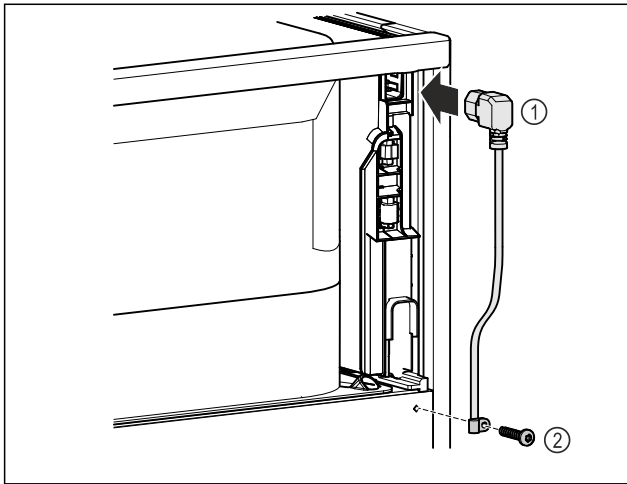

Fig. 8
- ▶ IEC socket of the power cable Fig. 8 (1) on the rear side of the appliance.
- ▶ Install mains tension relief. Fig. 8 (2)